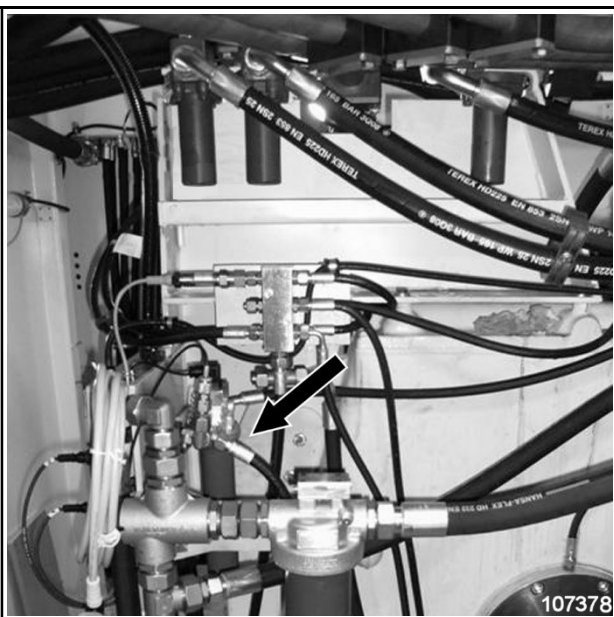

Fig. 3-53:
To filter the hydraulic oil in the control circuit, the machine is equipped with a high-pressure filter (arrow, Fig. 3-53:).
- Place a suitable collecting recipient under the filter housing (Fig. 3-53:).